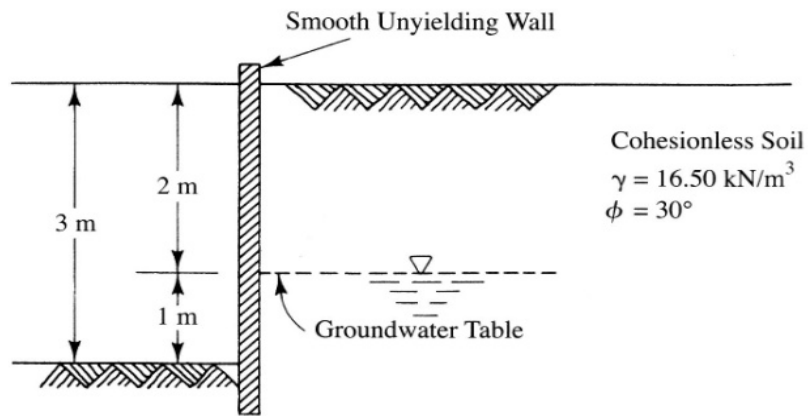

Figure 1
- b) For the wall shown in Figure 1, calculate the total lateral force on the wall